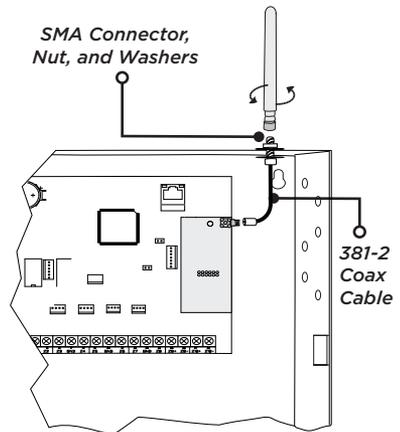

Figure 3: Installing the 263HINT on an XR150/XR550
4. Apply even pressure to both sides of the board and push until the connector is fully seated on the module. See Figure 3.
6. Position one of the washers onto the 381-2 SMA connector and push the threaded end through an enclosure knockout. See Figure 3.